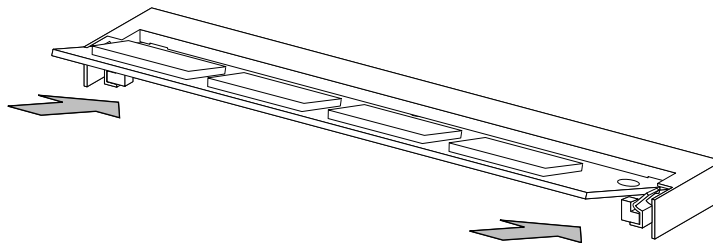

Figure 2-5. Inserting a New SIMM
7. Slip the SIMM into the connector socket and push in gently to seat the SIMM firmly in the socket (Figure 2-5).